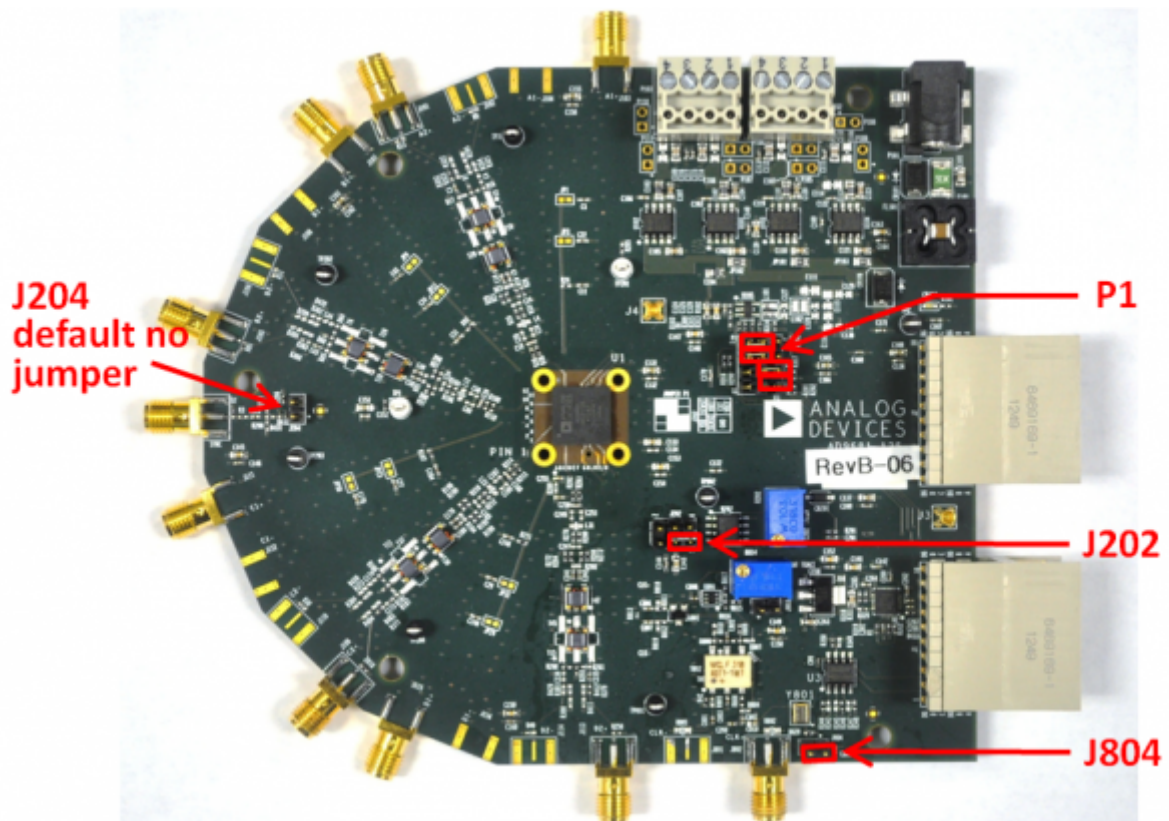

Figure 2. Default Jumper Connections for AD9681-125EBZ Board
2. On the ADC evaluation board, confirm that the jumpers are installed as shown in Figure 2.
Set the jumper settings/link options on the evaluation board for the required operating modes before powering on the board. The functions of the jumpers are described in Table 1. Figure 2 shows the default jumper settings.
J202	<p>This jumper selects between internal <math>V_{REF}</math> and external <math>V_{REF}</math>.</p> <p>To choose the ADC's internal 1V reference, connect Pin 3 (DUT_SENSE) to Pin 5 (GND) as shown in Figure 2.</p> <p>To use the on-board <a href="#">AD822</a> buffered reference, connect Pin 2 (DUT_SENSE) to Pin 1 (AVDD), and connect Pin 4 (DUT_VREF) to Pin 6 (EXT_REF). Adjust external VREF to be 1.0V using potentiometer R202.</p> <p>To apply a reference voltage from an external off-board source, connect Pin 2 (DUT_SENSE) to Pin 1 (AVDD) and apply the reference voltage to Pin 4 (DUT_VREF). The AD9681 reference voltage is specified to be 1.0 V.</p>